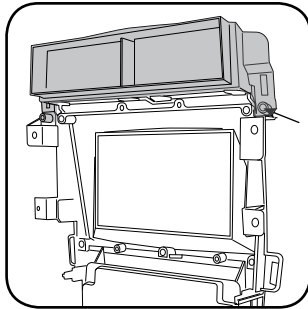

Fig. 2.2
2. Snap the factory vents on the top of the EDG1 bezel and secure them with the two 7mm screws removed earlier. (Fig. 2.2)